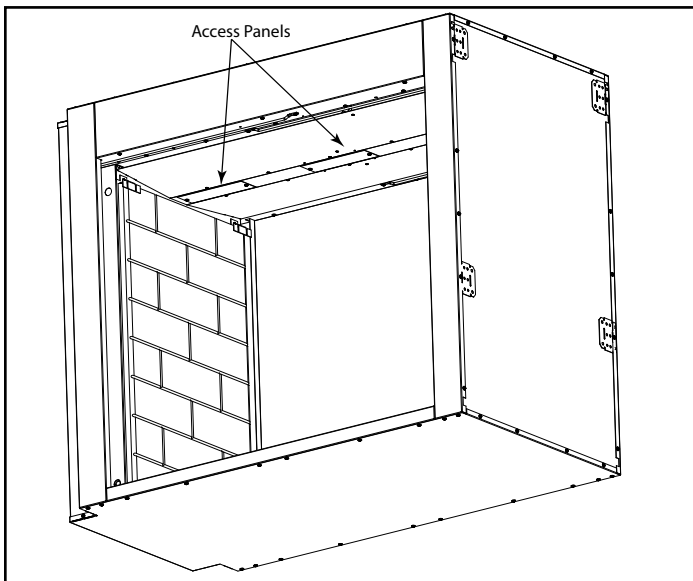

Figure 3 - Side Access Panel
4. Remove the two (2) top access panels. See Figure 3.
17. Reinstall outer top access panel (larger plate) back in place with two (2) screws previously removed. See Figure 3.